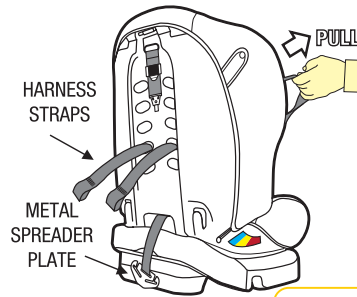

Figure 2
**Step 1:** Loosen harness to allow spreader plate to rise from under the restraint. Turn the restraint so that the back of the restraint is facing you (refer page 25 Figure 2).
**Step 3:** Pull the shoulder harness straps through the shoulder slot holes in the restraint body and cover. They are now loose in the front of the restraint (refer Figure 2).